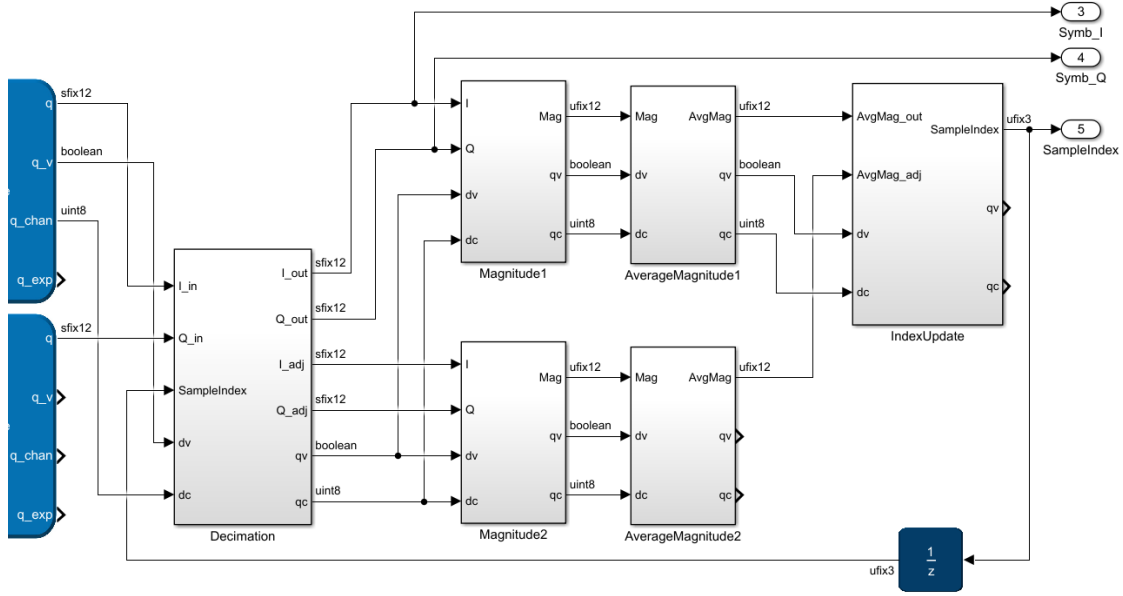

Figure 5: Overview of the STR part of the receiver design.
- Create a copy of the *Magnitude1* subsystem, and connect the first one to the *I_out* and *Q_out* signals from the *Decimation* subsystem, and the second one to the *I_adj* and *Q_adj* signals. The complete system is shown in Fig. 5, for reference.
- Go back out to the *TransceiverBPSK* and create a copy of your *AverageMagnitude1* subsystem. Connect one of the copies after each *Magnitude* subsystem, as shown in Fig. 5.
- Create a new submodule named **IndexUpdate** with the standard valid and data ports, two input ports named **AvgMag_out** and **AvgMag_adj**, and one output called **SampleIndex**. Connect the submodule as shown in Fig. 5. Don't forget to add the *SampleDelay* in the feedback loop to the *Decimation* unit; it's needed by DSP Builder to determine the timing of the design. Add the necessary *SynthesisInfo* etc. blocks to your new submodule.